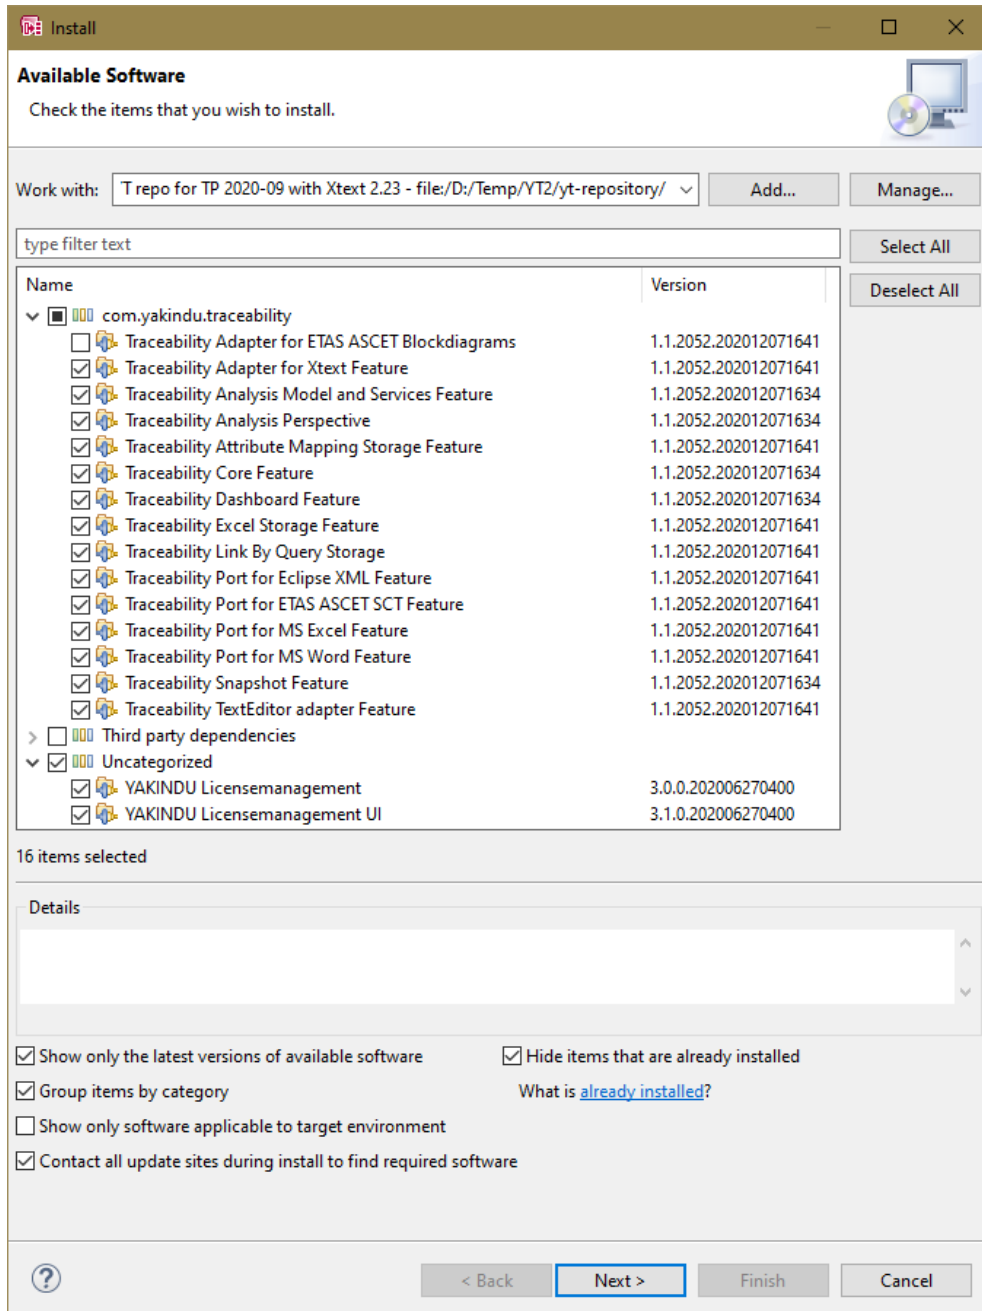

Figure 103. "Install" window with Yakindu Traceability features selected for installation
4. Expand the top and bottom nodes and select the features as shown in Figure 103.